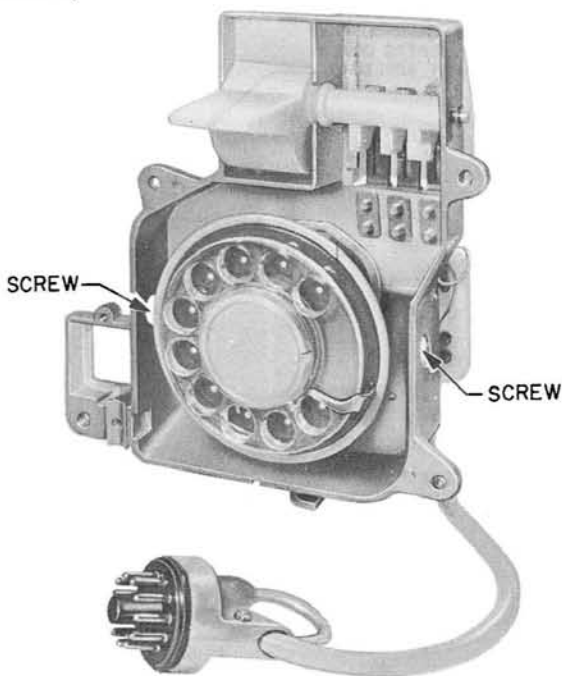

Fig. 4 - Dial Housing
3. Remove two screws on side of dial assembly. (See Fig. 4.)